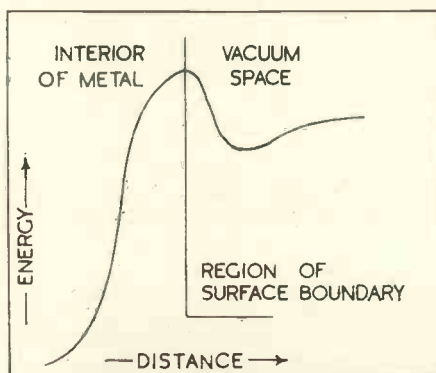

Fig. 1. Energy changes in thermionic emission of electrons
The figures with regard to the power factor are obtained at room temperature and in a dry atmosphere. Fig. 1 shows that within the range between zero and 100°C . the clinostatite bodies, the rutile and magnesium-orthotitanate bodies practically do not change their power factor, whereas the porcelain and steatite bodies have a power factor
Fig. 1. Temperature-Power Factor curves of various materials at high frequency (1 to 10 Mc/s). (1) Porcelain. (2) Steatite. (3) Rutile body. (4) Clinostatite body. (5) Magnesium-Orthotitanate body. In Fig. 1a curves 3, 4 and 5 have been extended on the temperature scale.
which increases with increasing temperature. Since the high power factor of the two latter materials results in heat development in strong high-frequency fields, it can be seen that even without additional heating these materials are not suitable for high-frequency purposes. Fig. 1 (a) shows the power factor at radio frequency of three low-loss ceramic materials between 100° C. and 300° C., and shows that for the clinostatite type and the magnesium-orthotitanate type the figures are extremely favourable. This is of special interest to the valve designer.
This idea is taken a step further in Fig. 1, representing the approximate shape of the actual surface potential barrier, which is seen to have a hump representative of the critical amount of energy which just suffices to secure escape of the electron. Its behaviour after escape is dependent upon the external field, and can be represented by suitable shapes of the portion of the curve following the hump. These ideas form the background of the modern theory of thermionic emission, which is dealt with in several treatises, notably those of Reimann⁶ and de Boer.⁷
Fig. 1. Electronic safety guard for power press operator. The light beam is interrupted by the shoulder (white rectangle). This press is also fitted with electronic time delay circuits to allow it to remain closed for a predetermined length of time. (Courtesy, Arvey Corporation, Detroit, U.S.A.)
Light ray guards are firmly established for some purposes, and an example of how fool-proof they may be is in the motor-car industry, where they have been applied to the protection of operators of large power presses (Fig. 1).